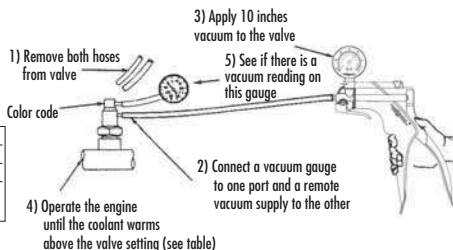

FIGURE 14: TESTING THE TWO-PORT PVS
- 1) Apply 10" Hg of vacuum to the bottom port of the valve with your vacuum pump and measure the results with a second vacuum gauge as shown in the accompanying illustration (FIGURE 14).